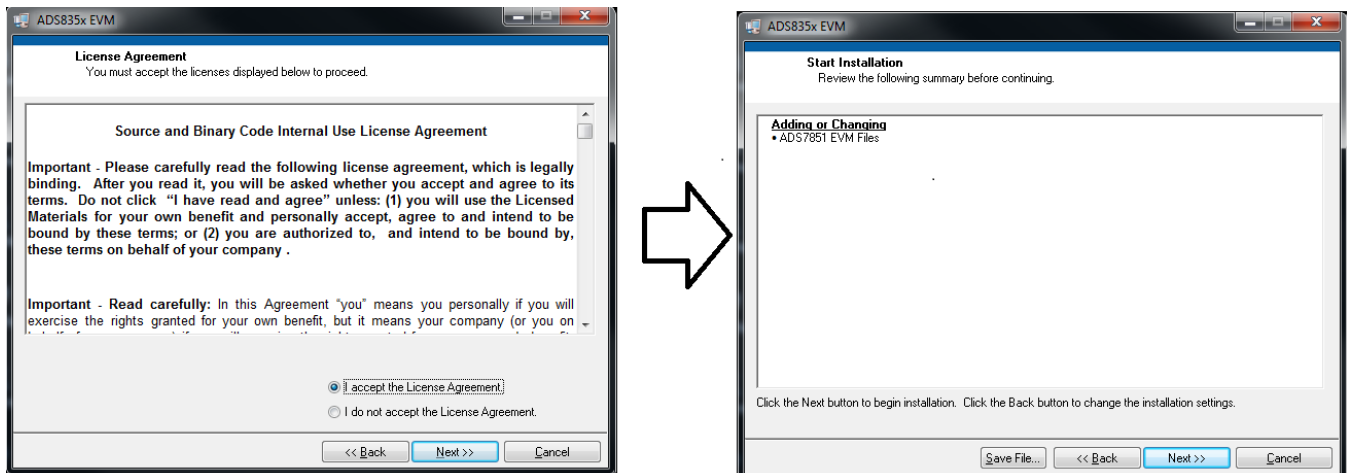

Figure 12. License Agreement and Start Installation Screens
7. The *Start Installation* screen appears. Click *Next*, as shown in Figure 12.